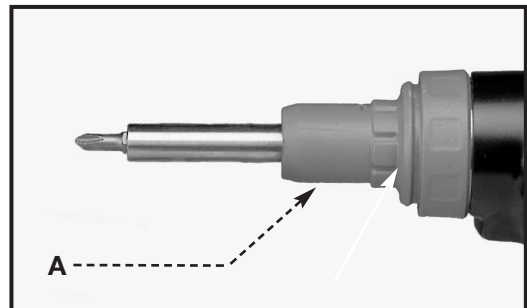

Fig. 4
Periodically, inspect the screwdriver clutch jaws for wear by removing the screwdriver mechanism housing (A) Fig. 4 from the power unit.